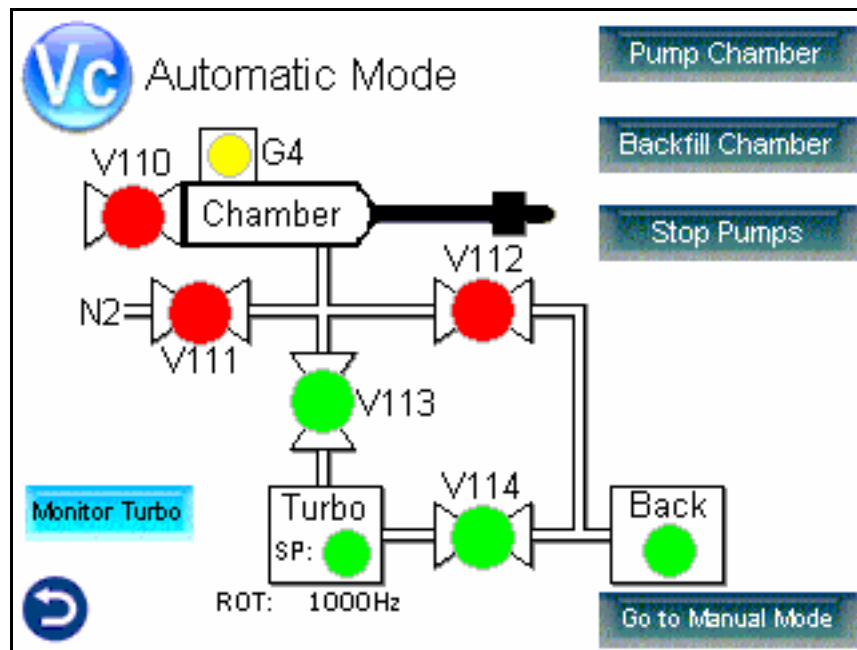
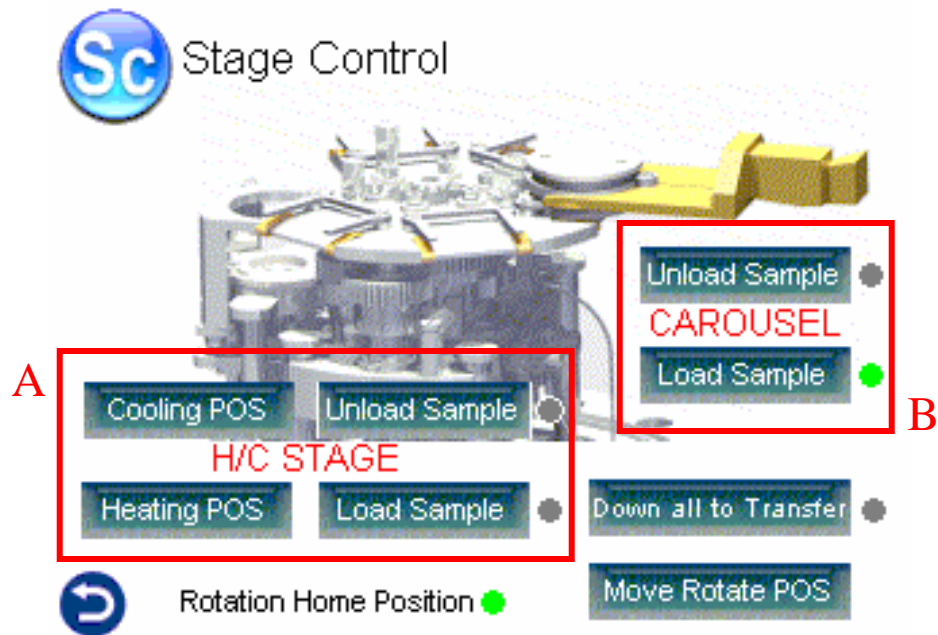
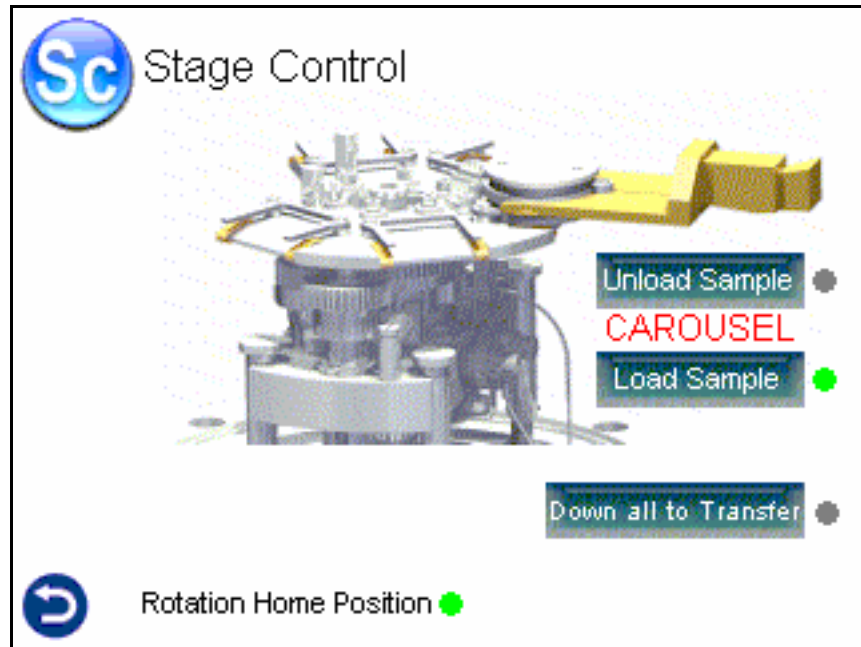

Figure 3-4. Display of "Vacuum Control" on Model 20-240/245
Figure 3-5. Display of "Stage Control" on Model 20-240
Figure 3-6. Display of "Stage Control" on Model 20-245
Display of **Vacuum Control** from Model 20-240/245 is shown in Figure 3-4. Display of **Stage Control** from Model 20-240 and Model 20-245 are in Figure 3-5 and in Figure 3-6. On Model 20-240, part "A" in Figure 3-5 is for Heating / Cooling Stage, part "B" is for Carousel. On Model 20-245, only part "B" is shown on the touch screen. Detail explanations of each function should be referred to "Hardware Manual for Model 20-240 and 20-245".
2. Go to **Stage Control** (Figure 3-5) on Model 20-240/245 by pressing button .